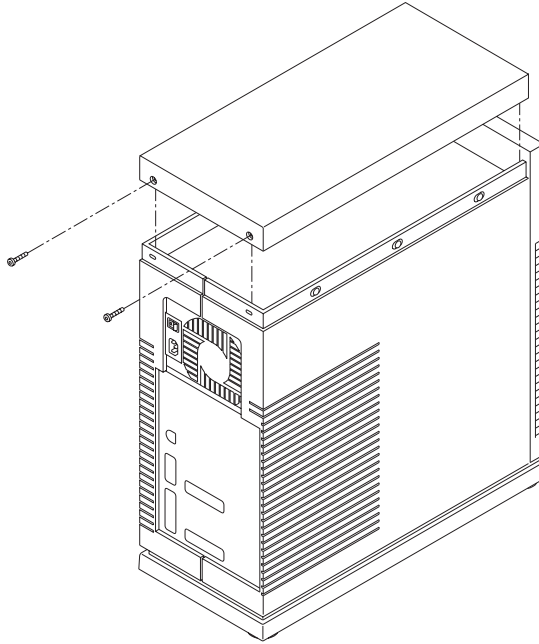

Figure 2 Removing the top cover from the standalone model
1. Using a T-20 TORX bit (earlier models may require a Phillips bit), remove the two screws from the back of the top cover (see Figure 2).